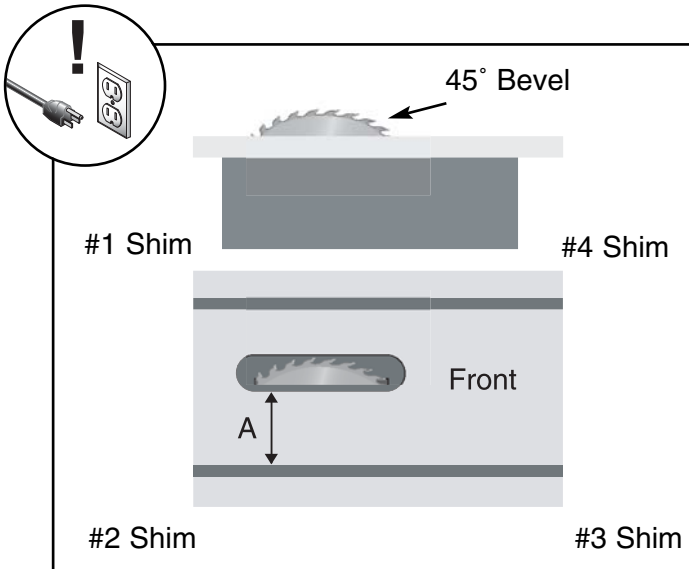

Figure 63. 45° blade parallelism measurement.
2. Using **Figures 63 & 64**, shim the trunnion assembly according to the difference measured when the blade was in the 45° position.